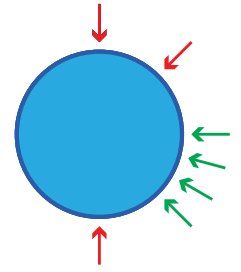

Figure 5. Flow switch install in horizontal pipe
2. In horizontal pipe, the tapped hole should be on the side parallel to the ground or a little lower to ensure the positive presence of flow. See Figure 5.